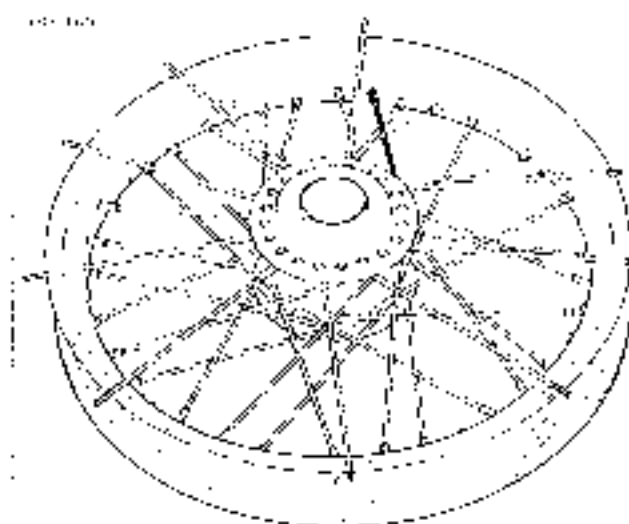

Figure 2-40. Beginning Spoke-Top Flange Outer
17. See Figure 2-40. Finish with top flange outer spokes (short head). Point the top flange outer spokes (short head) counterclockwise and make sure each one crosses four inner spokes before securing it to the rim.